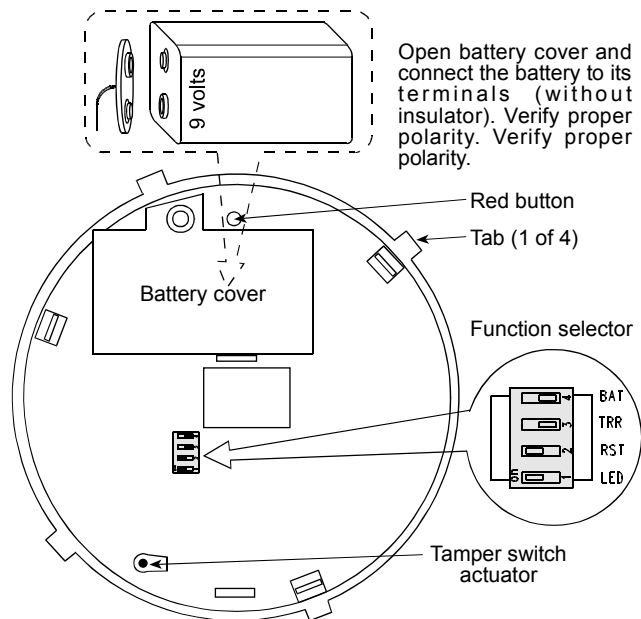

Figure 3. Smoke Detector Rear Side
The MCT-425 and MCT-425C have a 4-position DIP switch function selector (see Figure 3). The switch levers are numbered 1 to 4, and each switch allows you to select one of two options.
A rear tamper protection switch is mounted under the PC board. The tamper switch actuator, extending through a hole in the base (see Figure 3), is pressed against the bracket when the unit is attached to the bracket.
- B. Replace battery (see figure 3).